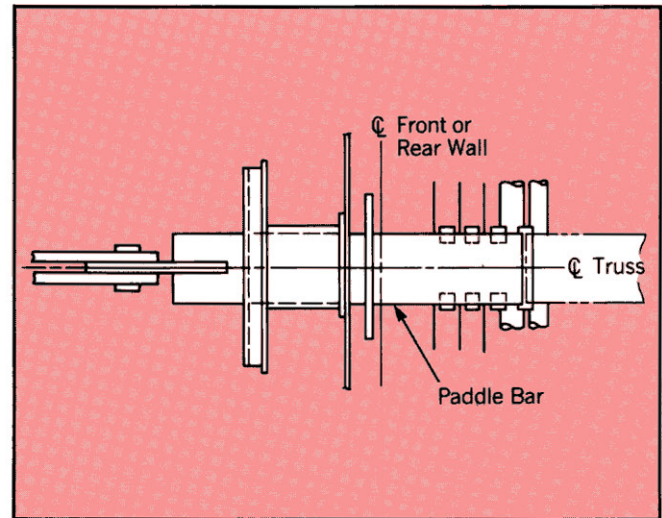

Figure 4 Paddle bar ties.
5. On boilers utilizing a paddle tie welded to the membraned wall, an Engineering Review is recommended. Figure 4 shows the paddle bar construction.